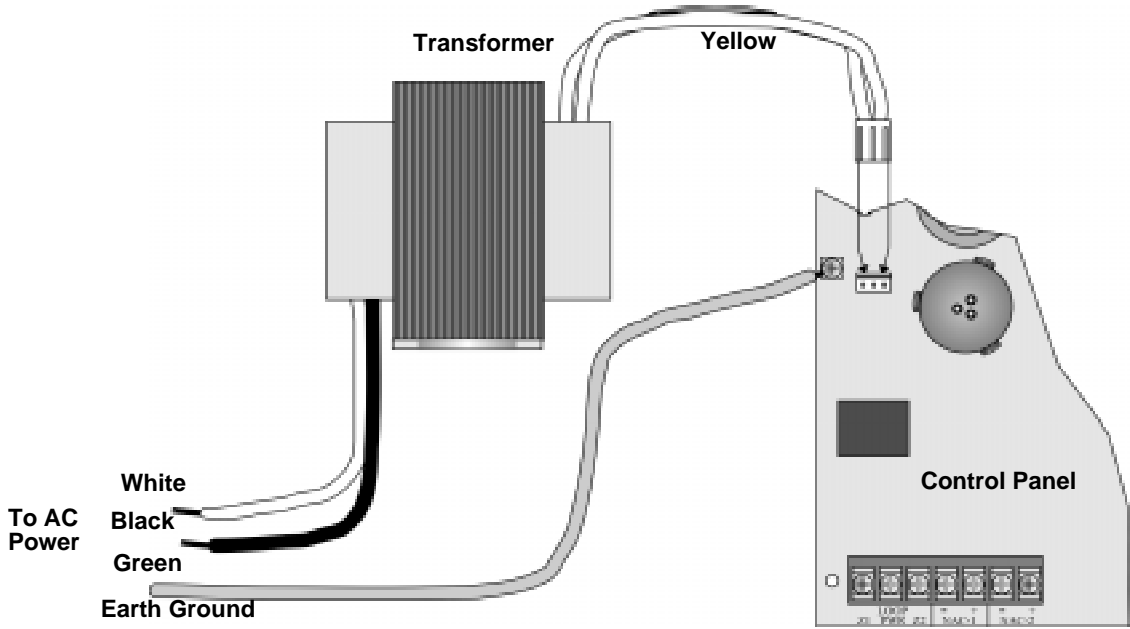

Figure 4-1 AC Power Connection
At installation, connect the transformer AC inputs to the AC power source as shown in Figure 4-1. It may be necessary for a professional electrician to make this connection.
1. Unplug the AC power connector from the SK-2224 control panel. See Figure 4-1.
4. Reconnect the AC power connector to the SK-2224 control panel. See Figure 4-1.